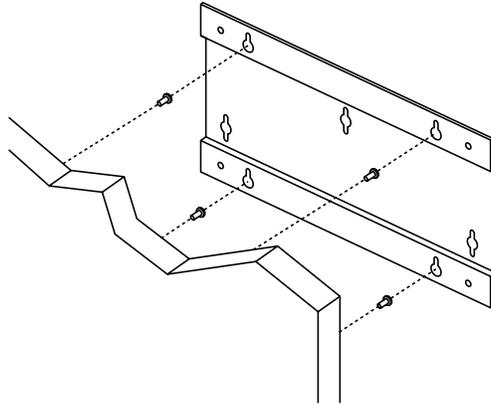

Figure 1. Temporarily attaching the plate to a surface.
- To create a *temporary* attachment (refer to Figure 1 on the back of this sheet): Use four tapping screws (not included) with heads small and thin enough to fit into the four keyed holes on the plate’s flanges without pressing against the USM, but with heads large enough and shafts thin enough to be locked by the keyed ends of those holes. Screw the screws partially into the surface at four points corresponding to the plate flanges’ keyed holes, then place the plate over the screws so that their heads go through the keyed holes. Slide the plate in the direction that will move the screws into the keyed end of these holes to lock the plate in place.